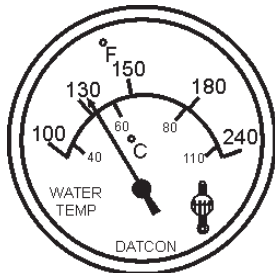

Figure 50. Coolant Temperature Gauge
15. The coolant temperature gauge (Figure 50) will indicate the coolant temperature. Under normal operating conditions the coolant temperature is between 165 and 215 degrees fahrenheit.